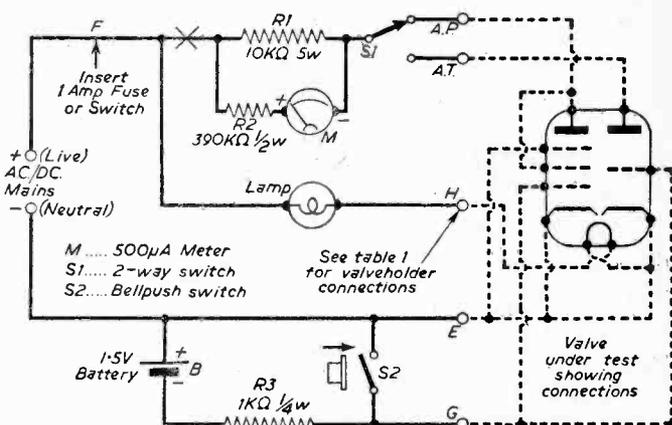

Fig. 2.—The circuit diagram.
The circuit is shown in Fig. 2 and begins at the "live" mains lead at point (F) where a shielded fuse or on/off switch may be inserted if desired. From here the live lead divides, one lead being taken through a batten lampholder, fitted with a "Home Office" shield, and thence to one heater pin of each valveholder. The other lead from point (F) is taken to the anode load of the valve under test, which comprises a 10k 5W wire-wound resistor R1, across which is connected the 500µA meter in series with 390k ½W resistor R2. The load is switched by two-way switch S1 to either the pentode or triode section of the valve, or, in the case of double triodes, to each half in turn.